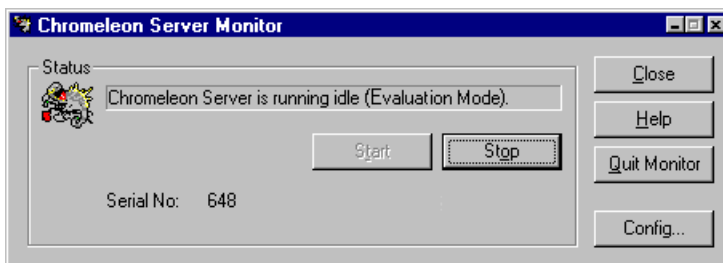

Figure 4. Server Evaluation Mode
- If “Chromeleon Server is running idle (Evaluation Mode)” is displayed (see Figure 4), the license Key Code has not yet been entered. If this is the case, go on to Step 4.